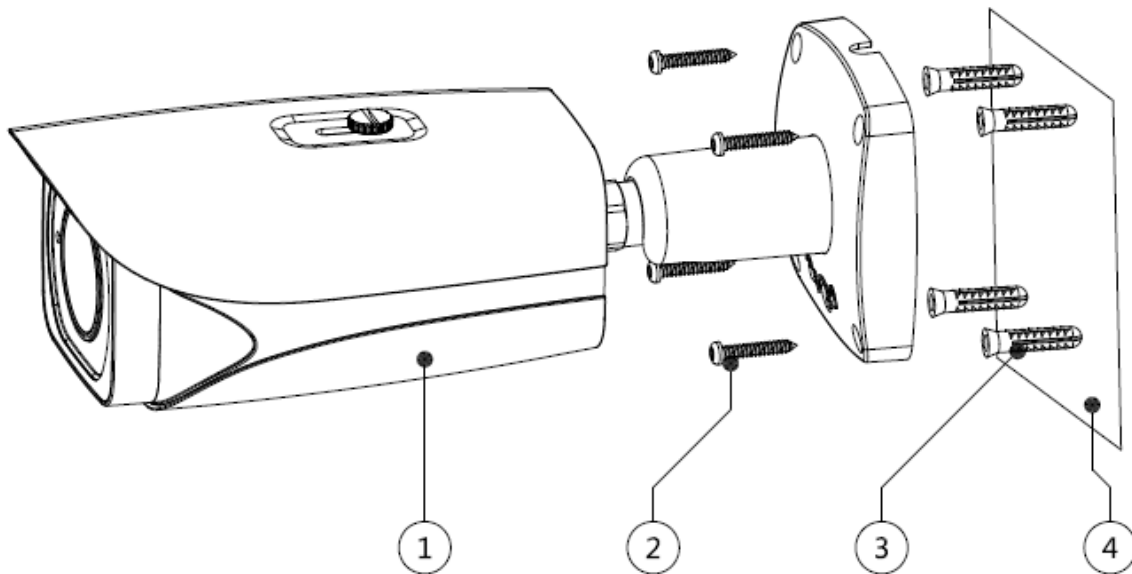

Figure 4-1
Take out the installation position map from the accessories bag, stick it on the ceiling or wall ④ according to the outlet location, dig holes on the installation surface according to the installation position map, and see Figure 4-1. Pull out the camera cable through the outlet hole on the bracket pedestal, and install camera bracket.
- If it is cement wall, it needs to install expansion bolt ③ first (the installation holes of expansion bolt need to be in accordance with bracket), then use self-tapping screws ② to install bracket.
- If it is wooden wall, you can just skip the first step, use self-tapping screws ② to install bracket directly.